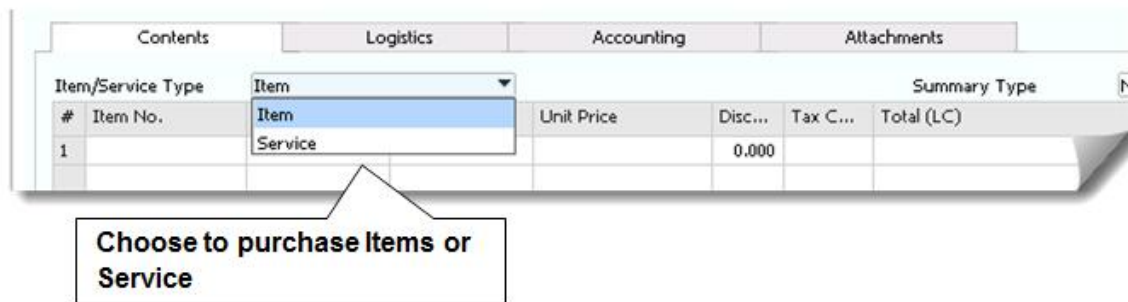

Figure 6-7: Purchasing an item and or a service
- **Contents tab:** In the *Item/Service Type* field, make sure the type you select corresponds to what you are ordering, as shown in Figure 6-7. Enter all items (or services - but note that you cannot mix the two items and services in a single purchasing document) you are ordering into the table. (See *Getting Started: Common Structure and Key Data* earlier in this chapter.)